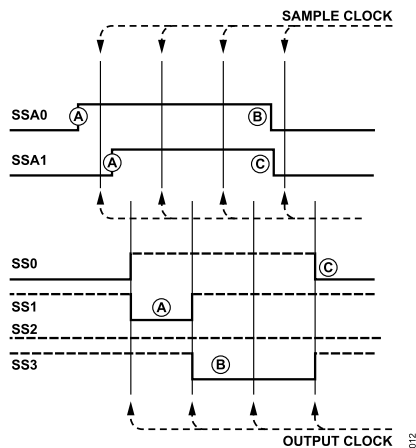

Figure 12. Mux Select Timing
Figure 12 illustrates the behavior of the SSA0 and SSA1 channels. This diagram assumes that MSS is low and that SS0, SS1, SS2, and SS3 are pulled up.
The following details the mux select timing shown in Figure 12:
- ▶ Point C: This point in Figure 12 shows a clean transfer between SS3 being active and SS0 being active. The mux was designed to eliminate any short duration metastable states between any two selected outputs.